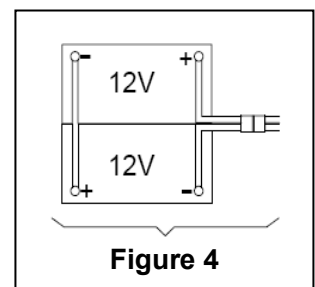

Figure 4
This machine needs two (2) 12V batteries. Please connect as shown in **Figure 4** on the right.